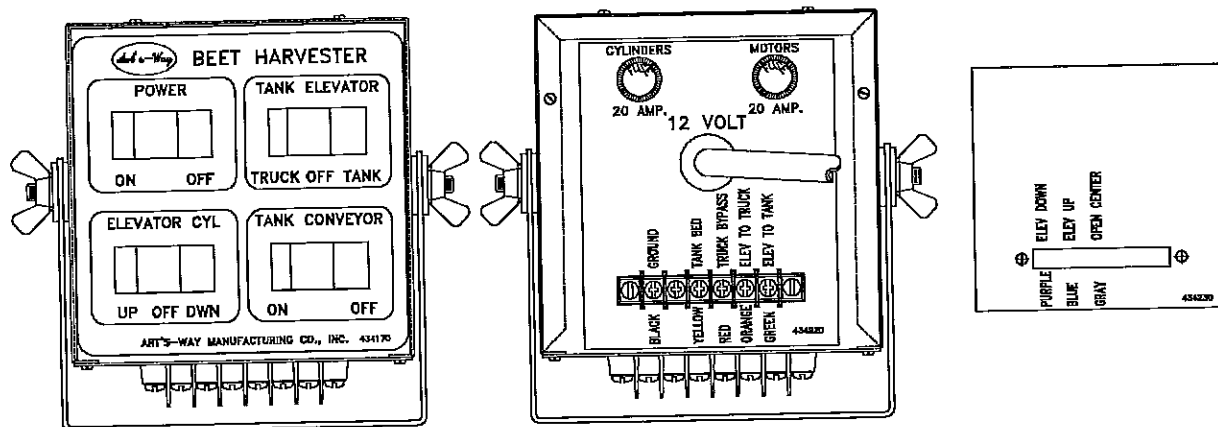

Figure 9. Main Control Box
2. Route the main wiring harness through the cab and connect the wires to the control box according to the color of the wires and the color code on the box. See Figure 9.